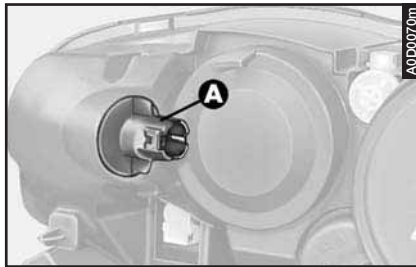

fig. 35
– Turn counter-clockwise and remove the bulb holder (**A- fig. 35**) without disconnecting the connector.